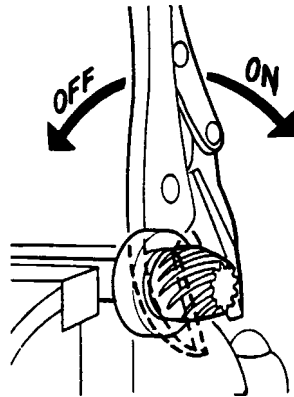

FIG 53
2. To remove pinion, grip shaft just behind bearing in jaws of vice (Fig. 53) and unscrew pinion counter (anti) clockwise (normal thread) with vice grips. If tight, heat to break loctite seal.